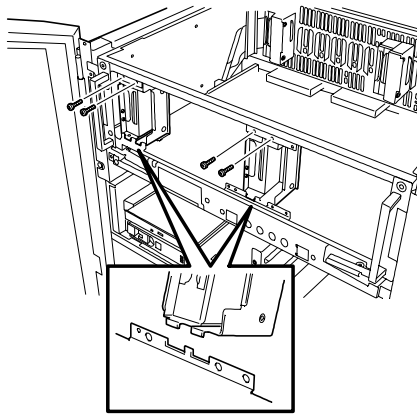

Figure 4-20. Installing the CPU Box Rails
10. Attach the bottom fasteners of the new CPU box rails (front: right and left) to the BSU chassis, then secure their upper screw holes with two screws removed in the previous steps, see Figure 4-20.